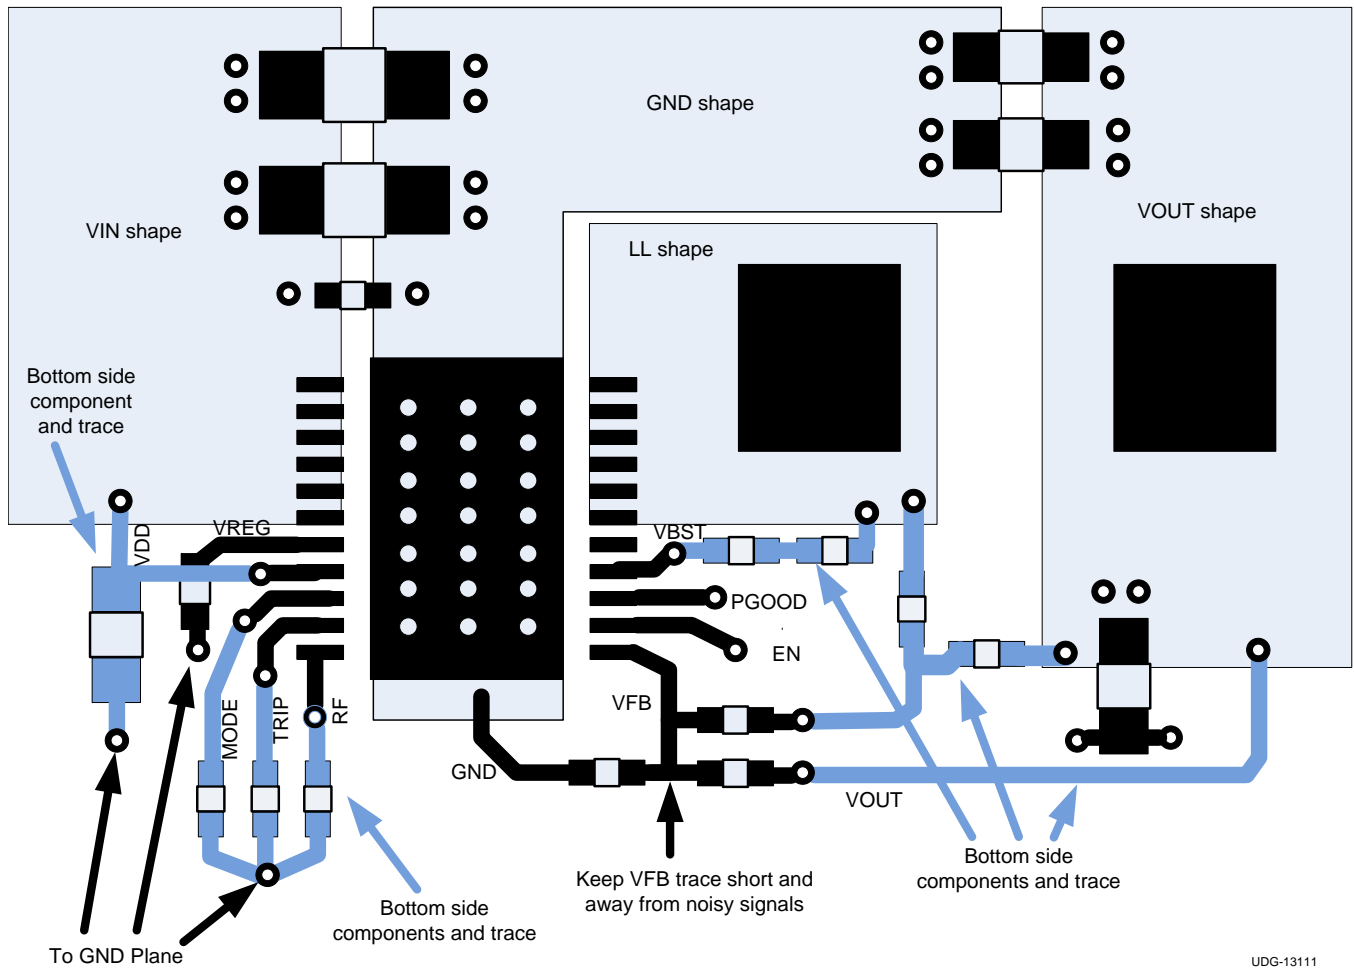

Figure 45. Layout Recommendation
- Changed updated Figure 45 25